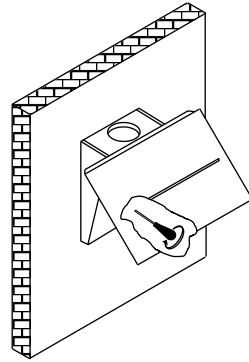

Fig 8
6. Drill both holes and fix the Boheme to the wall using plugs and screws (Fig 8).